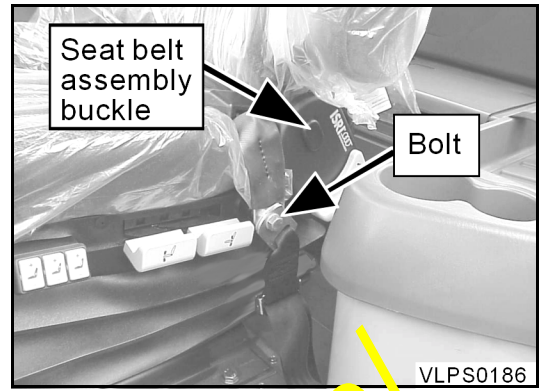
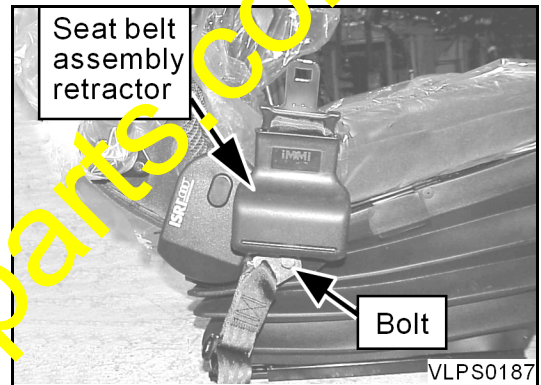

Figure 1
Figure 2
1. Remove the existing seat belt assembly mounting bolts at the right and left sides of the operator's seat (Figure 1).
1. Install the new seat belt assembly, oriented as shown in Figure 1 and Figure 2.